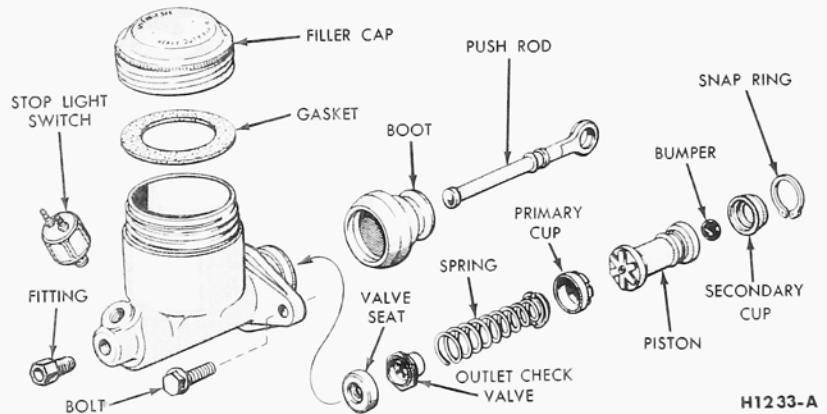

FIG. 16—Typical Brake Master Cylinder F-250 Trucks
3. Remove the brake bolt, fitting, and gaskets from the forward end of the cylinder (Fig. 16 or 17). Remove the snap ring from the bore at the rear end of the cylinder and remove the stop plate, piston, cup, spring, check valve, and seat from the cylinder bore. If necessary, blow through the forward bolt hole to move the parts.